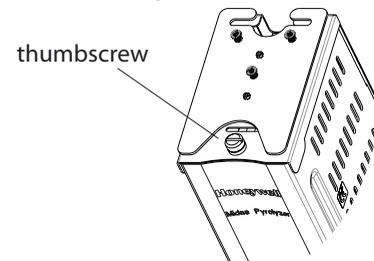

Figure 7: Loosening the thumbscrew
- Loosen the thumbscrew on the top of the unit as shown in Figure 7.